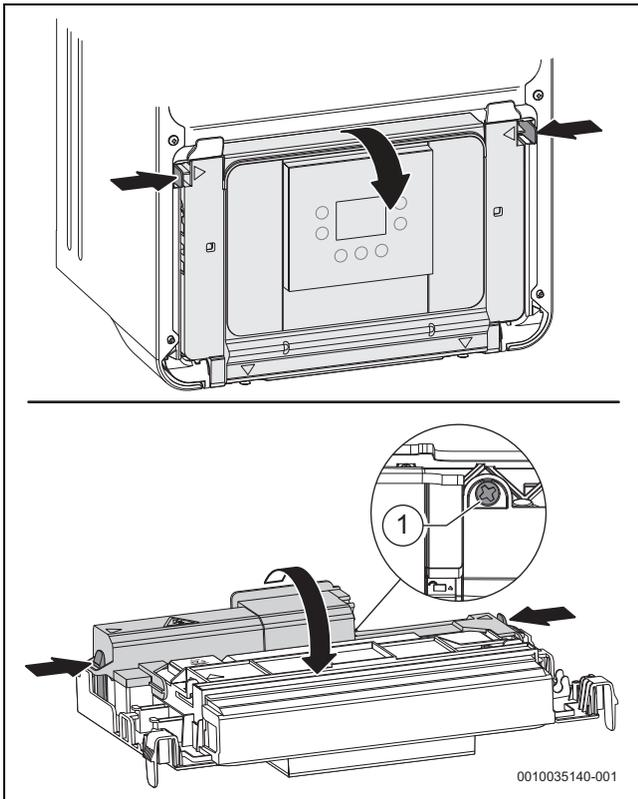

Fig. 48 Opening the cover
If the power cable is of insufficient length and is to be replaced, access the connection terminal (→ Fig. 48)
- ▶ Pivot control unit downwards (→ Fig. 48).